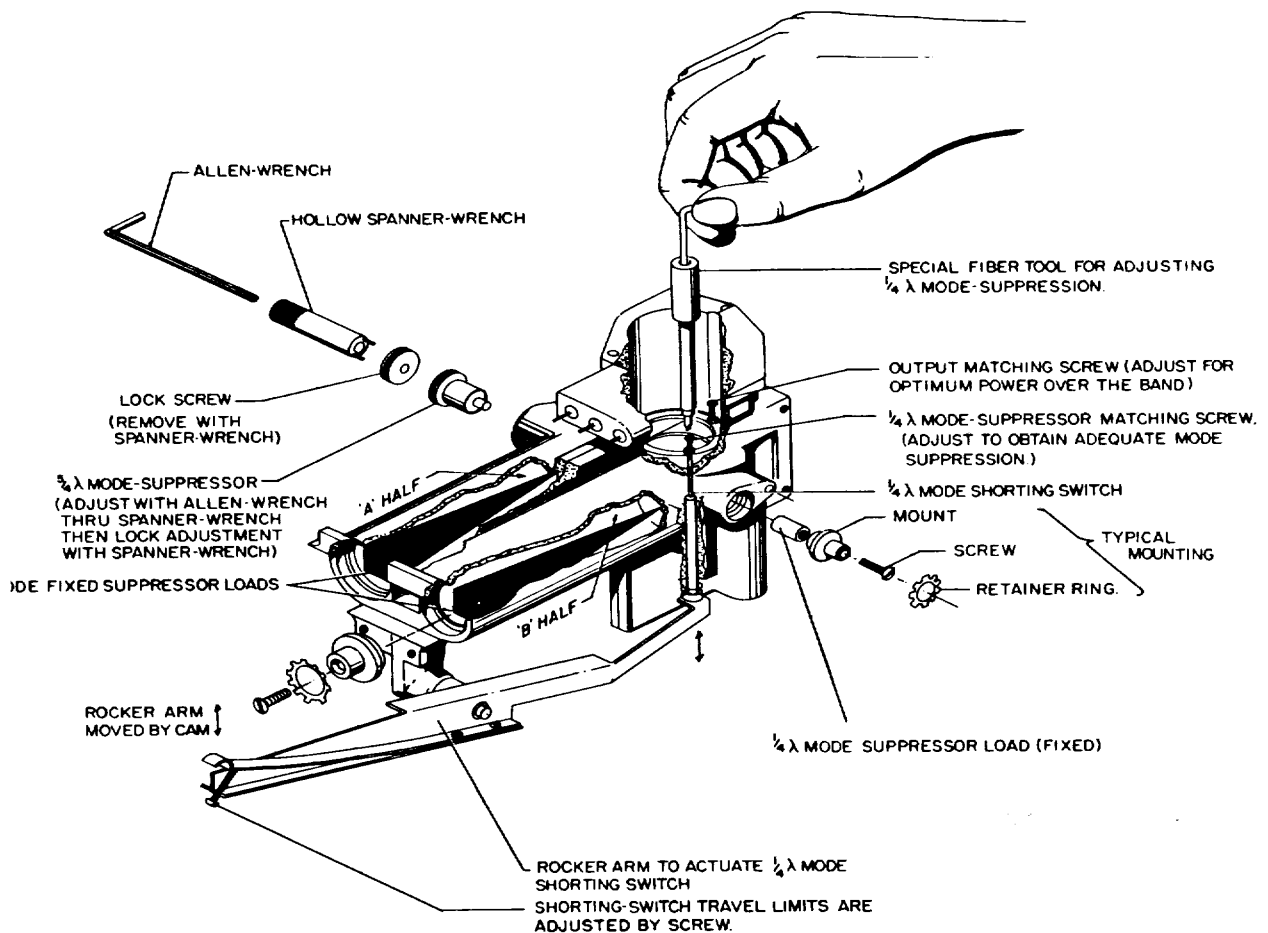

Figure 5-13. Adjustment of Mode Suppressors and Output Matching Screw
c. Adjust the 1/4 wave mode suppressor matching screw to eliminate interference. Use the special fiber tool supplied with the instrument and refer to Figure 5-13.
f. To suppress this mode, adjust the 5/4 wave mode suppressor shown in Figure 5-13. Another special tool is provided to assist you in this adjustment; it is the small hollow spanner wrench secured inside the chassis. After unthreading lock screw insert a No. 10 allen wrench through it to adjust suppressor. After achieving the desired suppression, lock suppressor in place.
5-53. OUTPUT POWER RESPONSE ADJUSTMENT. After satisfactory tracking has been obtained and undesired modes suppressed, the output matching screw must be adjusted as shown in Figure 5-13.